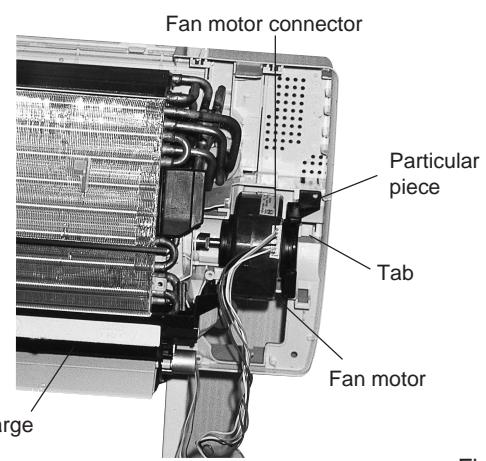

Fig. 4
- Release the fan motor leadwire by pressing the hook at the center of the connector. (Fig. 4)
- Then remove the particular piece that holding the fan motor by pressing the tab. (Fig. 4)
- Remove the discharge grille and then the drain hose. (Fig. 4)